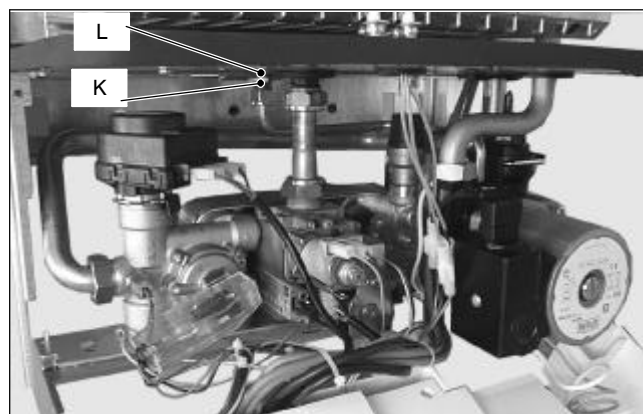

Fig. 53
- 2 Completely unscrew the connection K, the lock-nut L (Fig. 53) and remove the expansion vessel from the top of the boiler.